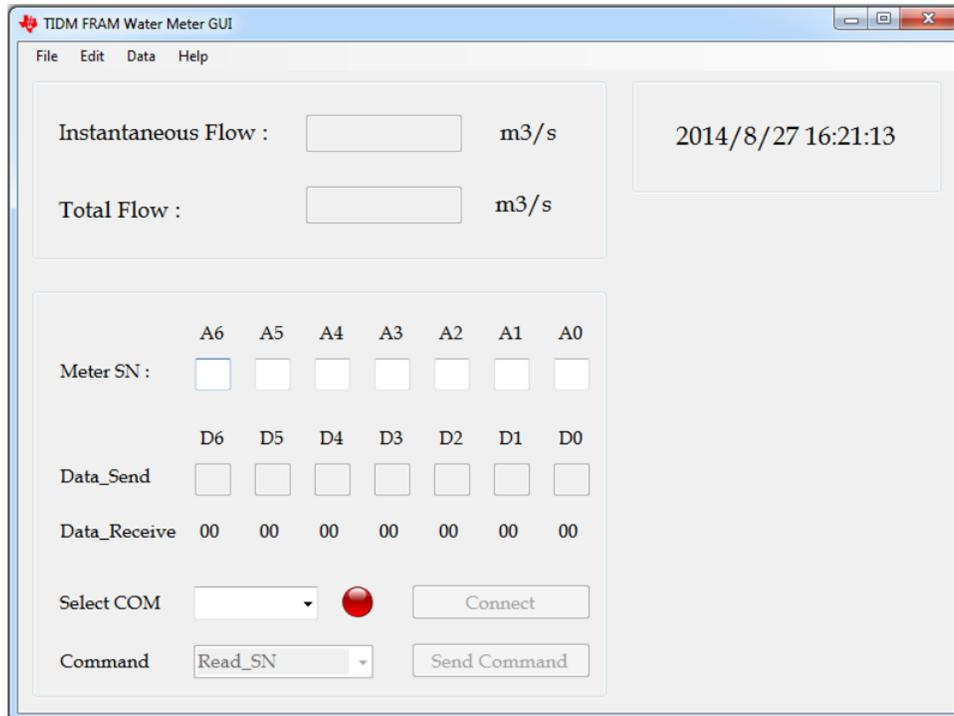

Figure 17. Startup Screen
2. Launch TI FRAM Water Meter GUI in the Software\GUI folder of tidc664.zip. When the GUI runs, the screen shown in Figure 17 is displayed.